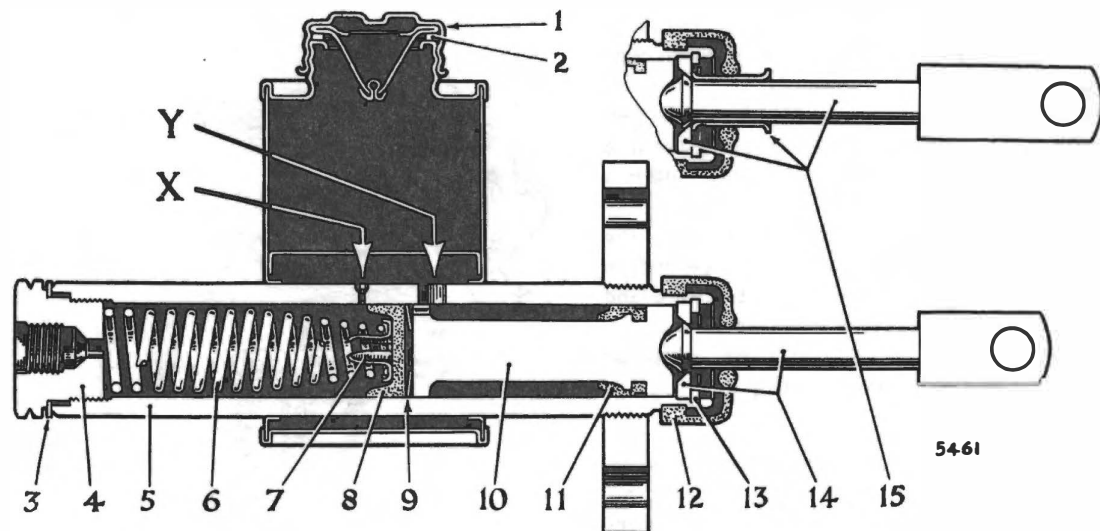

Fig. 4. Master cylinder, sectional view
This unit (Fig. 4) incorporates a fluid reservoir and a master cylinder. Directly in front of the main rubber cup (8), when the system is at rest, is a by-pass port (X) which ensures that the system is maintained full of fluid at all times, and allows full compensation for expansion or contraction of the fluid due to changes of temperature. It also serves to release additional fluid drawn into the cylinder from the annular space formed by the reduced skirt of the piston (10), through the small holes in the piston, after each application. If this additional fluid is not released to the reservoir through the
**To dismantle (Fig. 4)**